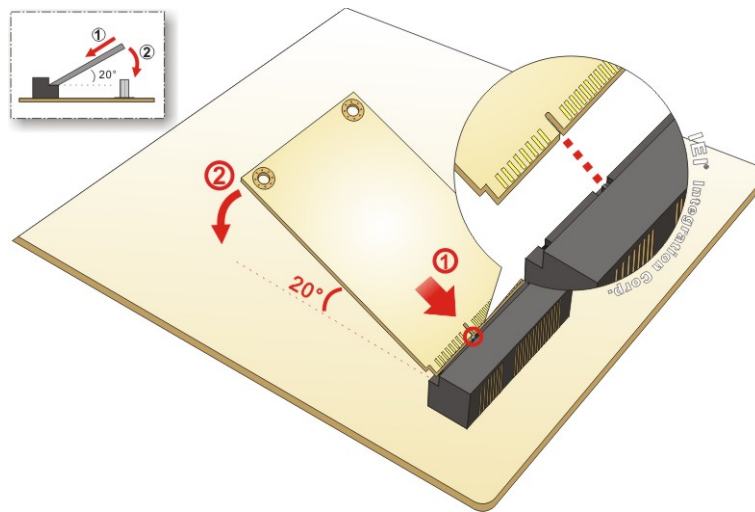

Figure 4-10: Inserting the mSATA Module into the Socket at an Angle
Step 3: Insert into the socket at an angle. Line up the notch on the module with the notch on the connector. Slide the mSATA module into the socket at an angle of about 20° (Figure 4-10).